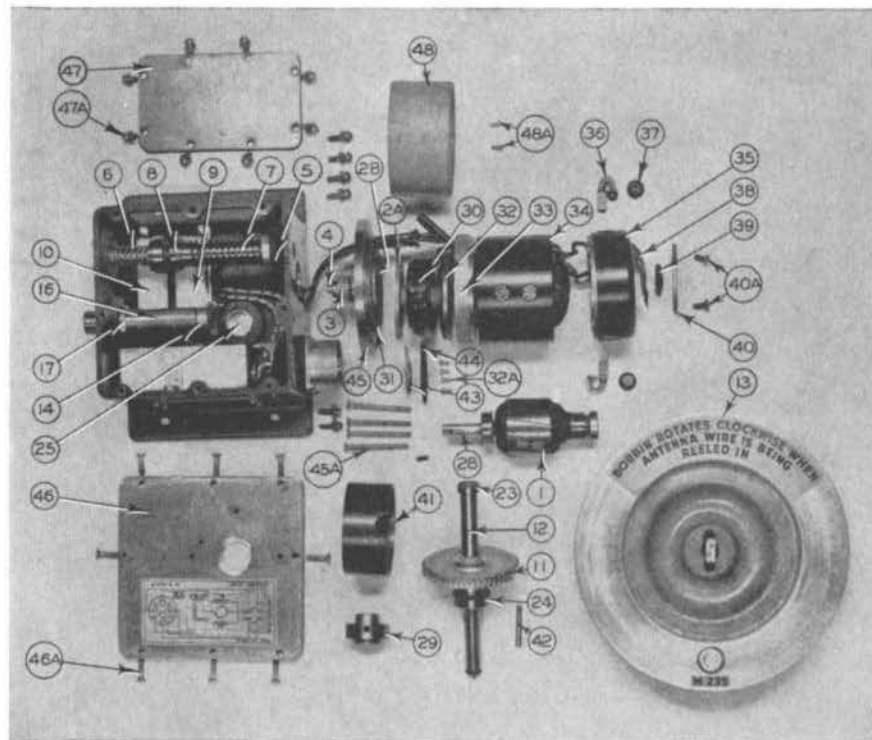
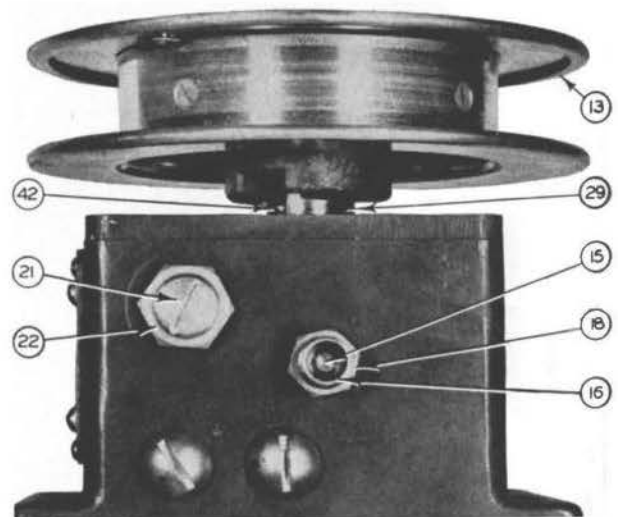

Figure 58. Antenna Reel. Complete Disassembly Detail
Figure 60. Reel and Box
Motion is transmitted from the armature (1), Figure 58, through the clutch (2A and 2B) to a pinion gear (3) keyed to the clutch shaft (4). This pinion gear (3) meshes with a second pinion gear (5) on a jack shaft (6). Also mounted on this jack shaft (6) is a spring loaded worm gear (7), one end of which is flared (8) to operate one of the limit switches (9). When the direction of rotation is such that the limit of clockwise travel is reached, the worm is forced outward and presses against the loading spring, finally moving
counter shaft drive gear (14) and counter drive shaft (15), Figure 60, in drive shaft housing (16), Figure 58, meshing of drive gear (14) and (11) is controlled by inward or outward movement of drive shaft housing (16) which is locked in place with lock nuts (17 and 18). Roller bearings (19) and 20) are used on jack shaft (6) with adjustment screw (21) and lock nut (22) used to adjust end play and bearing clearance of shaft (6). Roller bearings (23 and 24) are used on reel drive shaft (12), end play and bearing clearance adjustment being taken care of by screw (25) and lock (26). Clutch